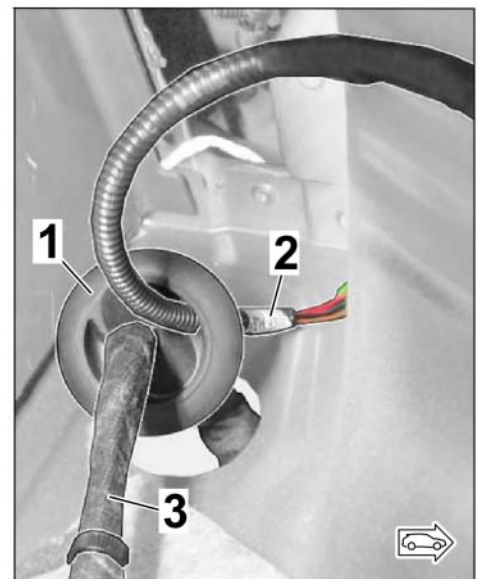

Figure 23
- Guide the new branch for the exhaust flap (left / right) through the neck of the grommet (see also 3.3.6) **OR** through another hole in the grommet collar (⇒ *Figure 23*) **CAREFULLY** to the underside of the grommet.